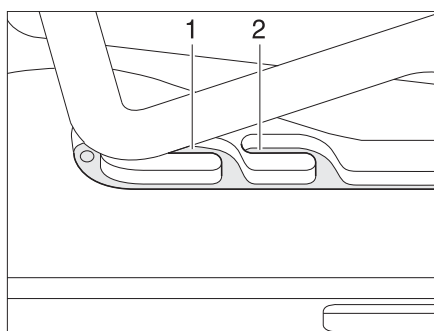
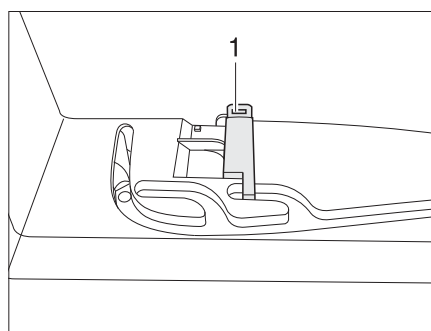

Fig. 31 Hinged skylight in ventilation position
Fig. 32 Locking mechanism in ventilation position
The hinged skylight can be put in two ventilation positions: Bad weather position (Fig. 31,1) and central position (Fig. 31,2). Depending on the model, the skylight can be locked in the central position with the latch (Fig. 32,1).
- Push the bar slightly upwards and into the selected guide (Fig. 31,1 or 2) and lock if necessary.